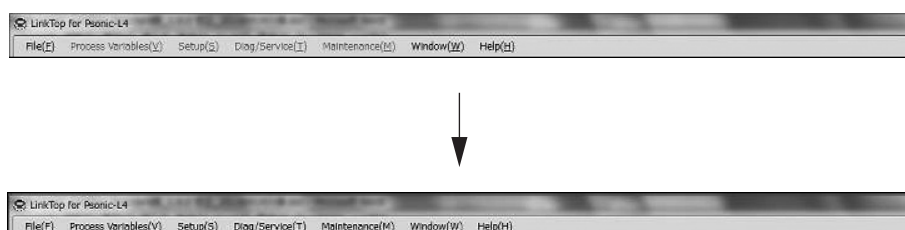

Fig. 3-12
- (5) When the connection is completed, some functions of the menu will become selectable (color of characters will change to black) as shown in Fig. 3-12.